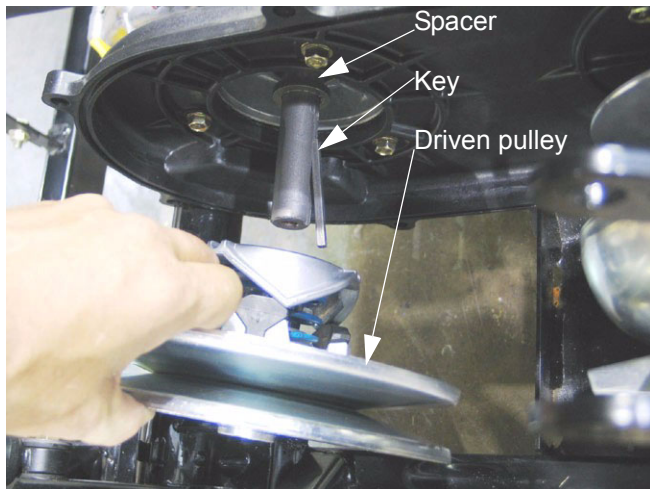

Figure 5.50
5.50. After the belt is removed, the driven pulley can be removed: See Figure 5.50.